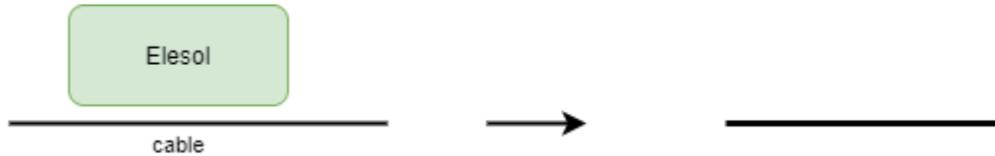

Figure 6: Elesol equivalence for noises below 150kHz.
- 1) **Frequency <150kHz:** in this low-frequency region, the impedance of the Elesol could be very low and Elesol does not interact with the noises in this range and does not filter them (mostly power harmonics). We could say that the Elesol is invisible for these noises/harmonics as shown in Figure 6.